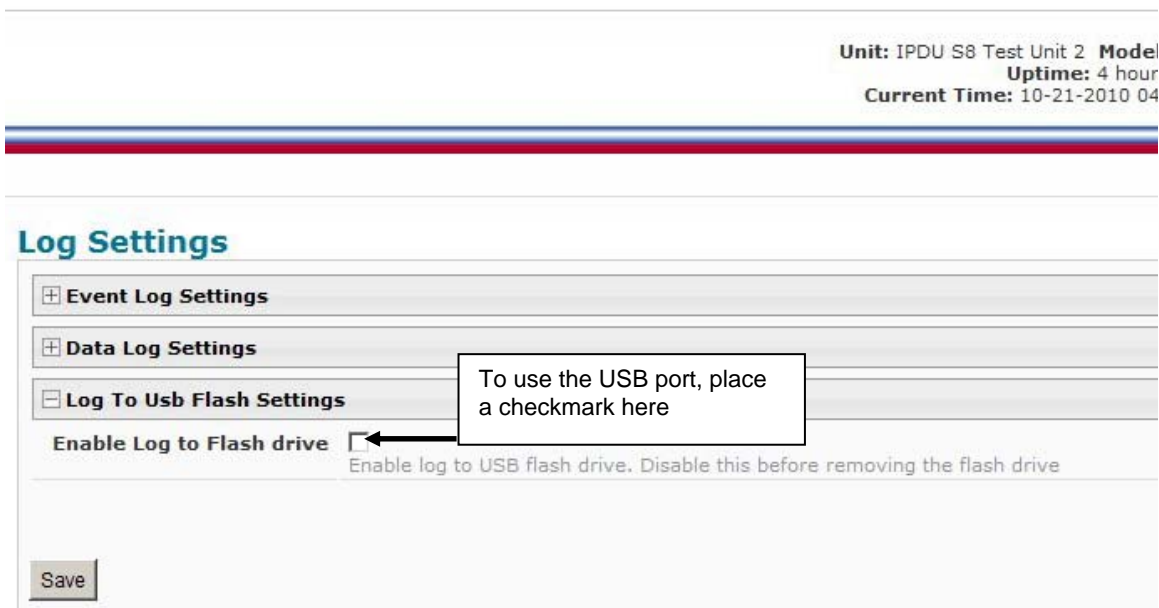

Figure 59- Enable USB Port
2. Place a checkmark in the “Enable Log to Flash drive” box found on the Log Settings page (Figure 59).